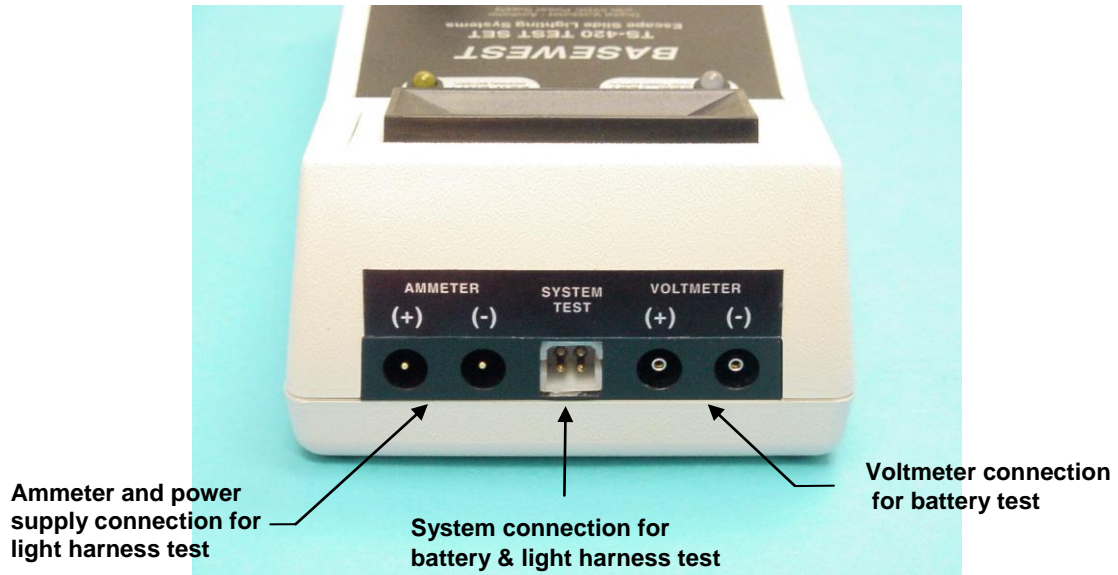

Figure 3. TS-420 Connector Block
- 6.2 Connect the dual RED banana plug from test cable P/N 7-6903 to a calibrated DVM (digital voltmeter) capable of reading 5+ VDC, and insert the test cable’s 4-pin connector to the System Test connector at the connector block (see Figure 3).
- 11.3 Connect a battery power source (~10VDC) to the "Voltmeter" inputs at the connector block using test cable 7-6904. Using the BLACK dual banana plug of test cable 7-6903, connect a calibrated DVM to the 4-Pin System Test connector on the TS-420 connector block (see Figure 3).